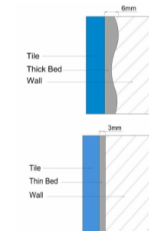

Fig.4.4: Cross section of Thick Bed and Thin Bed
- Typical cross-section of thick bed and thin bed shown on Fig.4.4)